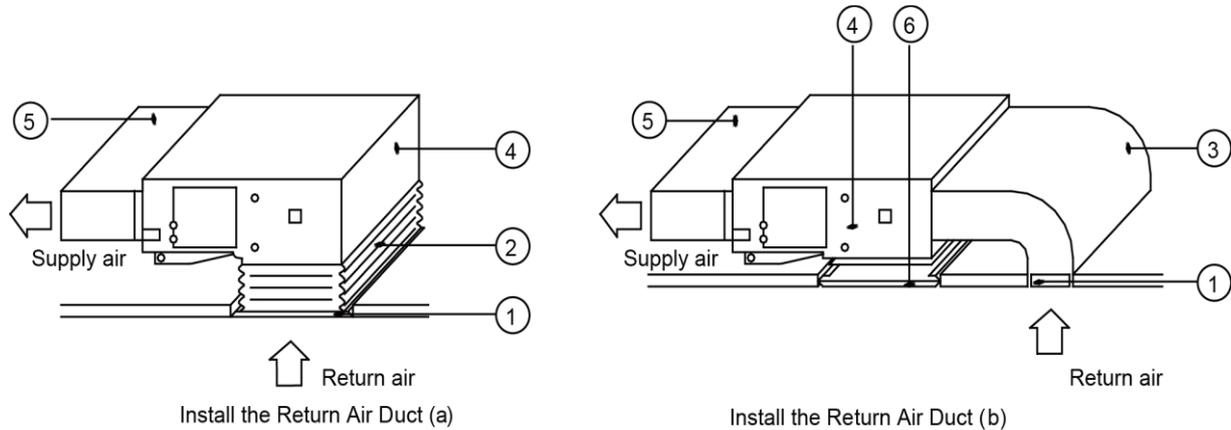

Fig 4.4.6
- (5) The installation method can be chosen with considering the conditions of the building and maintenance etc., as shown in Fig 4.4.6.